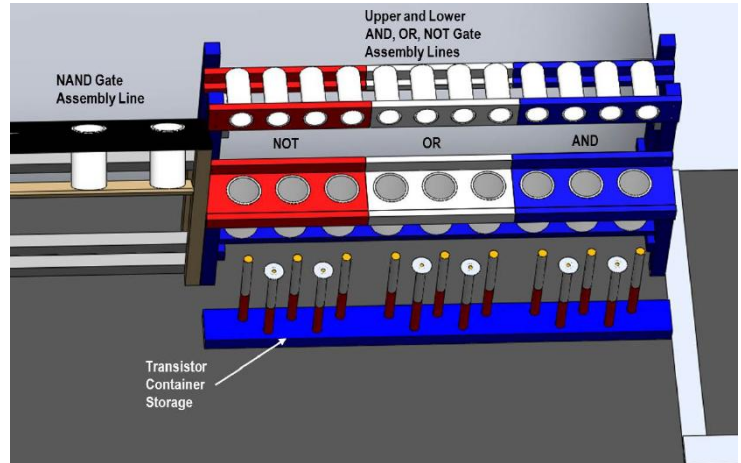

Figure 1.2
- **Gate Fabrication Area Overview:** The lower and upper gate assembly lines for AND, OR, and NOT is composed of a 48" x 24" x 14" two-level frame. The lower receptacle consists of nine 3" PVC pipes, 6" in length and perpendicular to the ground. The upper-level receptacles consist of twelve 2" PVC pipes, 6" in length. The NAND assembly line frame is 24" x 24" x 7" made with 2" x 2" wood. The receptacles consist of three 3" PVC pipes 6" in length with a 30° incline. Transistor container storage consists of 2" x 4" x 48" lumber containing fifteen 1" drilled holes in a staggered pattern, five centered in front of each of the AND, OR, and NOT areas. **Figure 1.2**